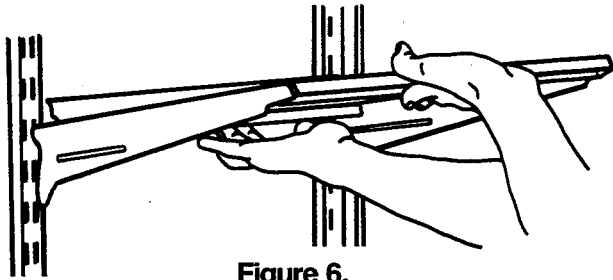

Figure 6.
- To remove "cantilever" shelves, tap upward at back of shelf, near the metal track. See Figure 6. This will loosen shelf hooks. Lift shelf and pull out.